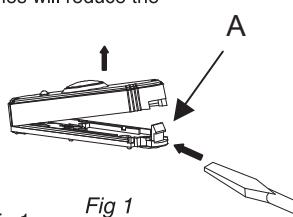

Fig 1
To open the front cover carefully insert a flat bladed screw driver, into the slot and twist gently (A). When refitting the front cover to ensure the weather proofing is maintained, always mount the bell push in the upright position and replace the cover securely. Fig 1